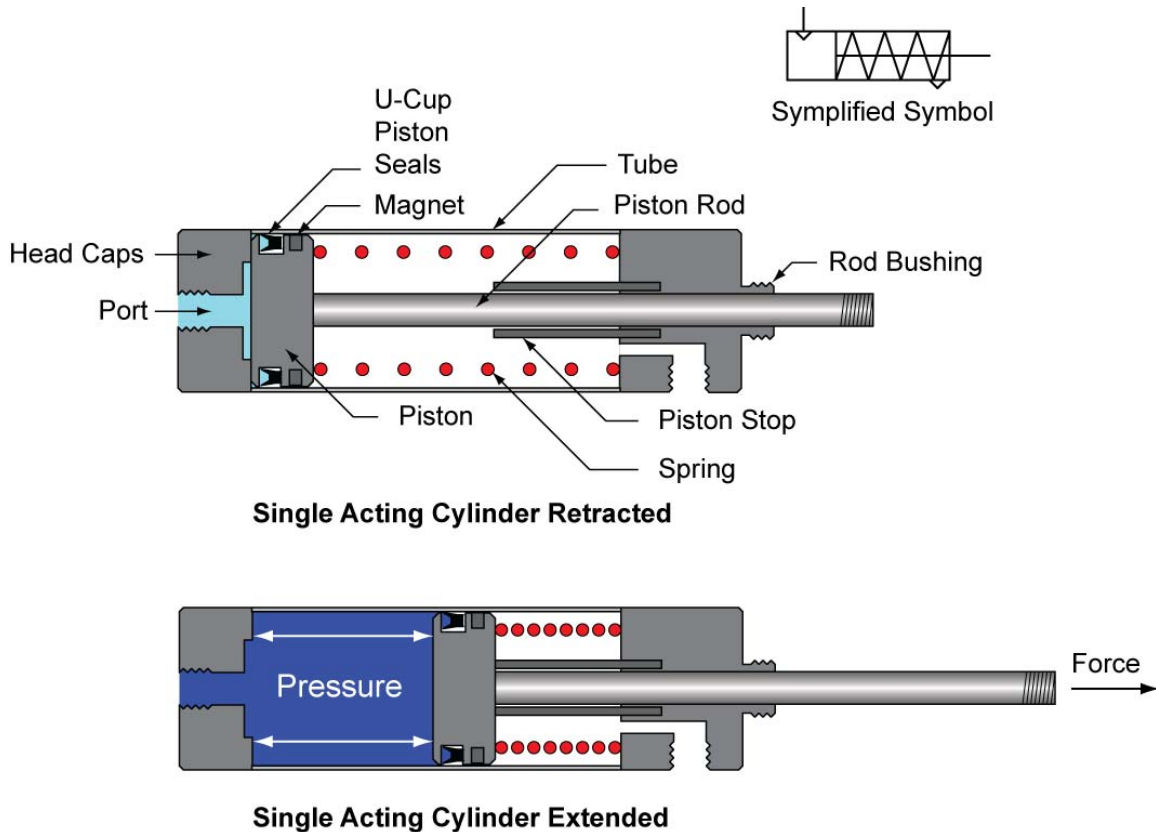

Figure 11: Single Acting Cylinder with Spring Return
- Operation of Single Acting Cylinders: Single-acting cylinders apply pressure to one end of the piston so they perform work in only one direction (Figure 11). To return the piston to its nonenergized state, single-acting cylinders can use either an opposing internal spring or a spring outside the cylinder that is attached to the item being moved.